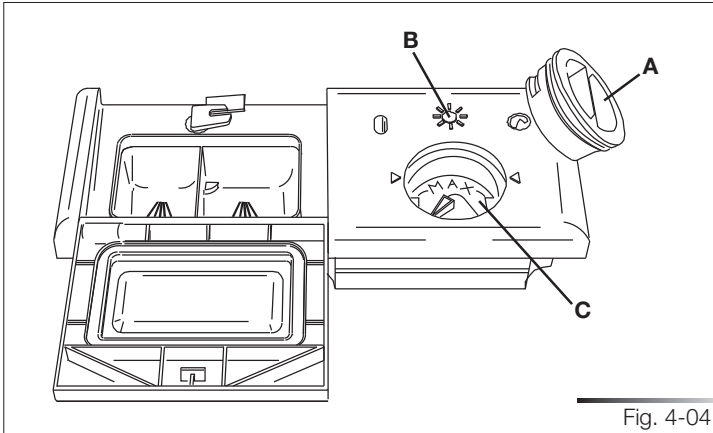

Fig. 4-04
- Rotate the container cover (ref. A fig. 4-04) anticlockwise by $\frac{1}{4}$ of a turn and remove it.
- Add the rinse aid until the container is full (approximately 140 ml). The optical level indicator (ref. B fig. 4-04), on the side of the cap should be completely obscured. Refill the rinse aid when the optical level indicator becomes clear again, or when the rinse aid warning light on the panel illuminates (see “Description of controls” manual).
- Replace the cover (ref. A fig. 4-04) by turning it in a clockwise direction until it is fully closed.
The rinse-aid dispenser can be set to one of 6 different levels. The dishwasher is factory set for medium water hardness (selector set to “3”). To change the setting, turn the dispenser selector (ref. c fig. 4-04) to the desired position: the amount of rinse-aid dispensed is proportional to the position of this selector. Make sure that the minimum amount of rinse-aid (selector turned to “1”) is approximately 1 ml and the maximum amount (selector turned to “6”) is approximately 6 ml.
- To adjust the rinse aid setting, rotate the dispenser cover (ref. A fig. 4-04) through a quarter turn in an anticlockwise direction and remove it.